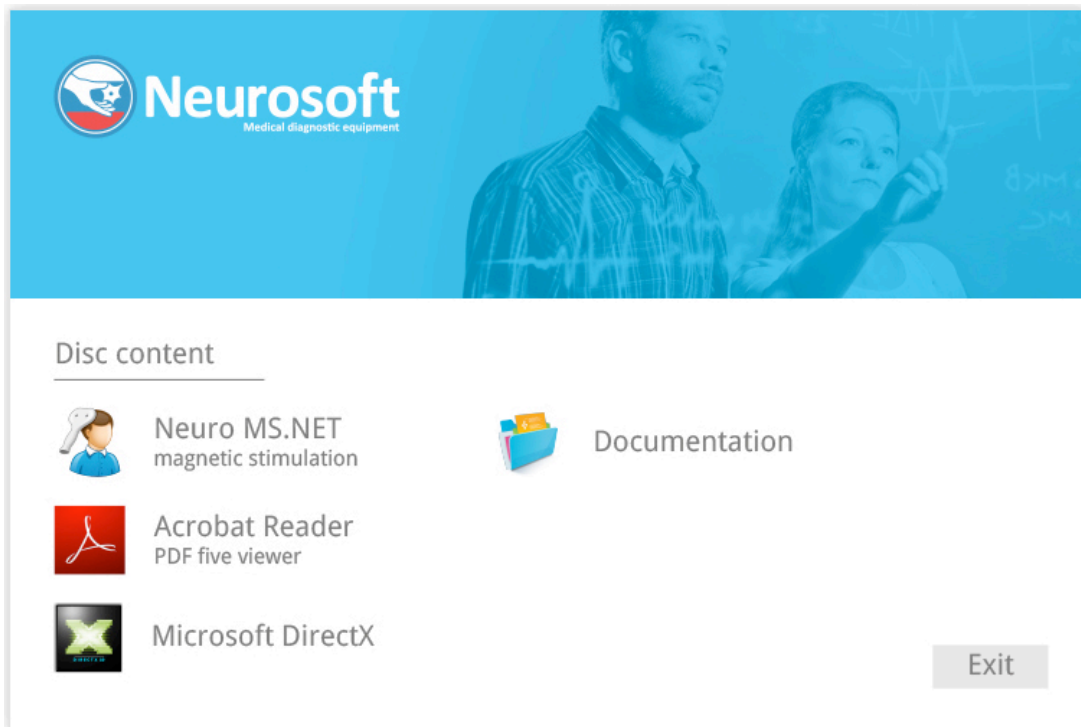

Fig. 55. Software installation wizard.
3. Fig. 55). If the autorun hasn't started and the window hasn't appeared (
4. Fig. 55), find AUTORUN.EXE file and run it.